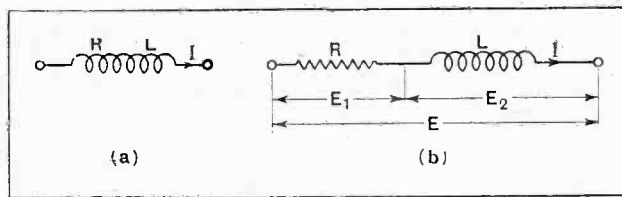
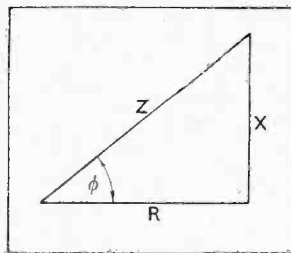

Fig. 1.—(a) Coil of resistance R and inductance L. (b) Equivalent circuit.
Fig. 2.—Impedance triangle for circuit of Fig. 1. The power factor of the circuit is $\frac{R}{Z}$ or $\cos \phi$. $X = 2\pi fL$ and $Z = \sqrt{R^2 + X^2}$.
Fig. 1.—(a) Connections of scratch filter resistance R_1 . (b) Potentiometer output circuit for reducing volume level. (c) Output circuit for reducing amplitude of low notes in special circumstances.
Fig. 2.—Curves for the circuit of Fig. 1(a) showing effect of scratch filter resistance R_1 . Values of R_1 are as follows: 1, infinity (open circuit); 2, 50 ohms; 3, 30 ohms; 4, 15 ohms; 5, 0 ohms (short circuit).
ing records, pick-ups and loud speakers. Record surface scratch, however, sets a limit to the useful increase in amplitude at high frequencies, and the degree of scratch varies with different records. Accordingly, provision has been made for effecting a compromise between high-note amplification and scratch. This is effected by connecting a 50-ohm rheostat (R_1 , Fig. 1 (a)) across terminals SC and PU₂; as the resistance is reduced in value, so the high note amplification, and hence scratch, is reduced. The effect of the resistance R_1 on the Novotone characteristic is clearly indicated in Fig. 2.
Many moving-coil loud speakers show a marked resonance in the region of 50-100 cycles. In these circumstances the increase in amplitude at low frequencies due to the Novotone would produce unpleasant results, if not actual damage, to the loud speaker. This difficulty is easily overcome by connecting a 0.001 mfd. condenser and a 1-megohm resistance between the Novotone and the grid and filament of the first amplifier as shown in Fig. 1 (c).
Where the Novotone is to be used in conjunction with existing amplifiers the general increase in voltage may result in overloading. A potentiometer arrangement must then be inserted as in Fig. 1 (b). It is important that the total resistance across terminals G and G.B. should be not less than 3 megohms. One resistance may conveniently be given a value of 2 megohms, and the other, R_2 , be given any value from 1 megohm upwards, depending on the volume required. Curve B (Fig. 3) was taken with 1 megohm in the position R_2 . The dotted line is curve 1 of Fig. 2 drawn for comparison to the same scale.
Fig. 3.—(A) Curve for circuit of Fig. 1(c) showing reducing in amplitude at low frequencies. (B) Curve for circuit of Fig. 1(b) showing general reduction in volume. The dotted line is curve (1) of Fig. 2 reproduced for comparison.
This is actually the case, and so it is very important that we should know exactly how to determine the power in terms of the voltage, current, and angle of lag. Fig. 1 is a reproduction of Fig. 2 of the previous instalment, where (a) represents a coil of inductance L henrys and resistance R ohms, and (b) represents the equivalent circuit as explained previously.
For the particular type of circuit depicted by Fig. 1 the power factor is given by $\frac{R}{Z}$, but there are other
of Fig. 1, given in Fig. 2, we see that $\frac{R}{Z}$ is the cosine